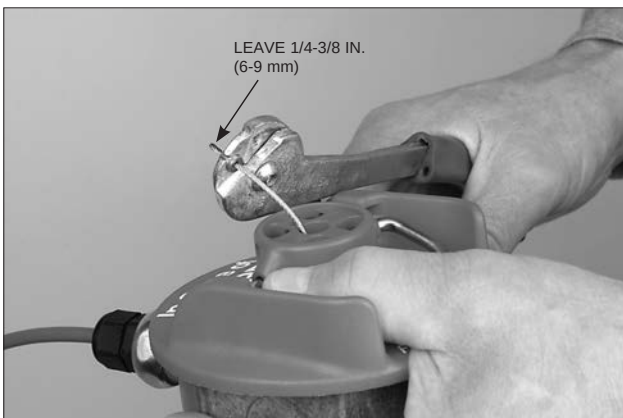

FIGURE 5-81
5. Thread the wire rope through stop sleeve and leave approximately 1/4-3/8 in. (6.4-9.5 mm) extended past sleeve. Crimp stop sleeve twice using Crimping tool, National Telephone Supply Co. Nicopress Sleeve Tool (Stock No. 51-C-887). Verify stop sleeve is secure on wire rope. See Figure 5-81.